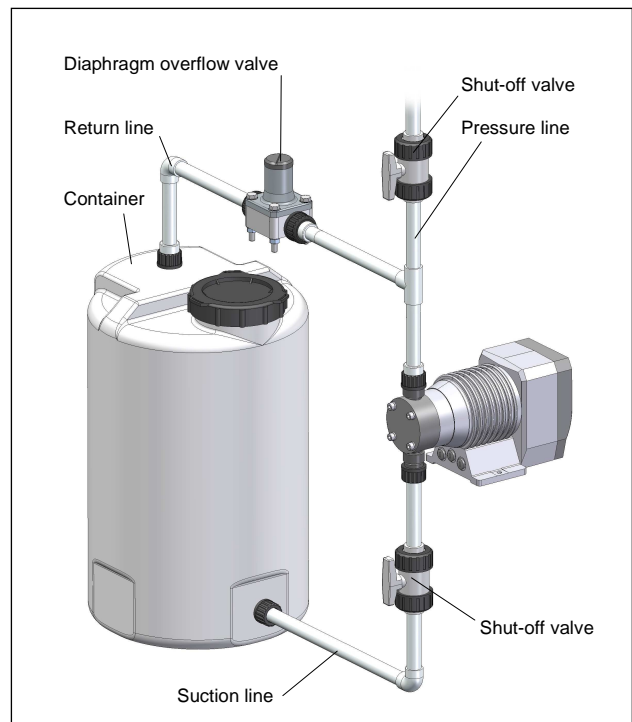

Fig. 16 System with (external) overflow valve
- install overflow valve (Fig. 16)